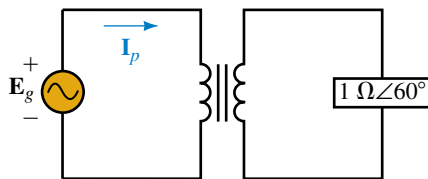

FIGURE 24–35
3. For Figure 24–35, if $I_p = 30 \text{ mA} \angle -40^\circ$ and $E_g = 240 \text{ V} \angle 20^\circ$, what is a ?